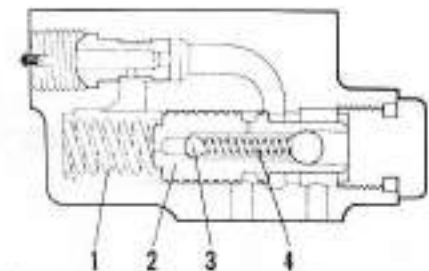

Fig. 25—Cross-sectional view of flow control valve spool and pressure relief valve assembly. Pressure relief valve is not serviceable.
**NOTE:** The pump pressure relief valve is located inside the flow control valve spool as shown in Fig. 25. The valve is non-adjustable and the pressure preset at the factory. No attempt should be made to disassemble relief valve. If necessary to correct pump relief pressure (700 psi), renew the complete flow control valve spool.